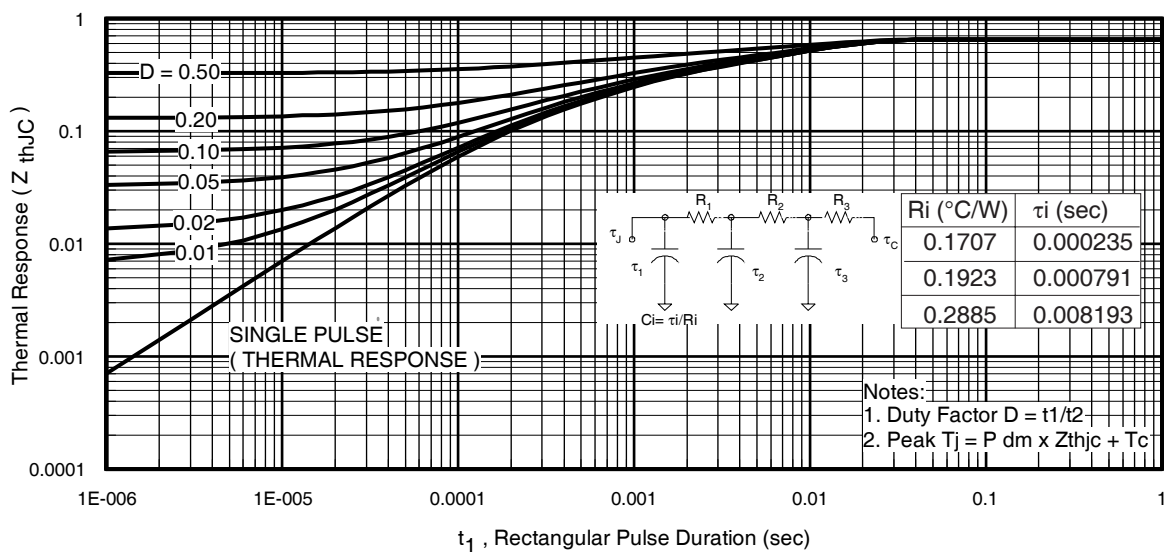

Fig 11. Maximum Effective Transient Thermal Impedance, Junction-to-Case
- ① Repetitive rating; pulse width limited by max. junction temperature. (See fig. 11).
- ② Limited by T_{Jmax} , starting $T_J = 25^\circ\text{C}$, $L = 0.064mH$, $R_G = 25\Omega$, $I_{AS} = 88A$, $V_{GS} = 10V$.
$Z_{thJC}(D, t_{av})$ = Transient thermal resistance, see figure 11)